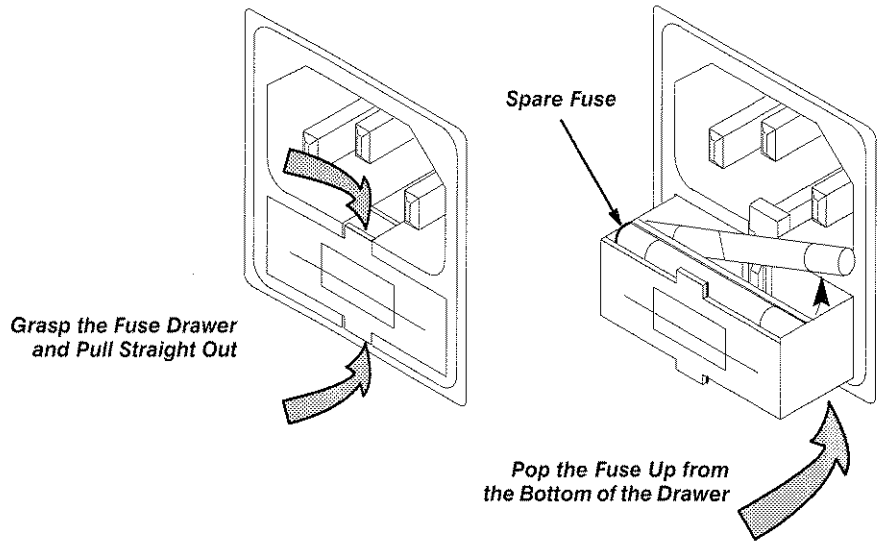

Figure 2-2: Fuse Compartment
3. Check the fuse to ensure it is the proper type and rating (the rear panel provides you with this information). The TAS 455 and TAS 465 Analog Oscilloscopes are shipped with the UL approved fuse installed. Figure 2-2 illustrates how to open the fuse drawer.